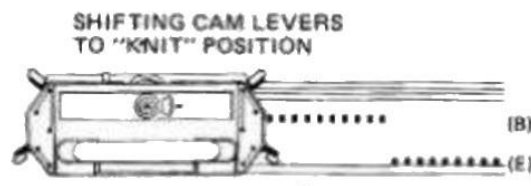

Fig.63 RETURN CAM LEVERS TO "POSITION 2"
- Bring forward from position (B) into position (E) the required number of needles farthest from the carriage. (Fig.63)